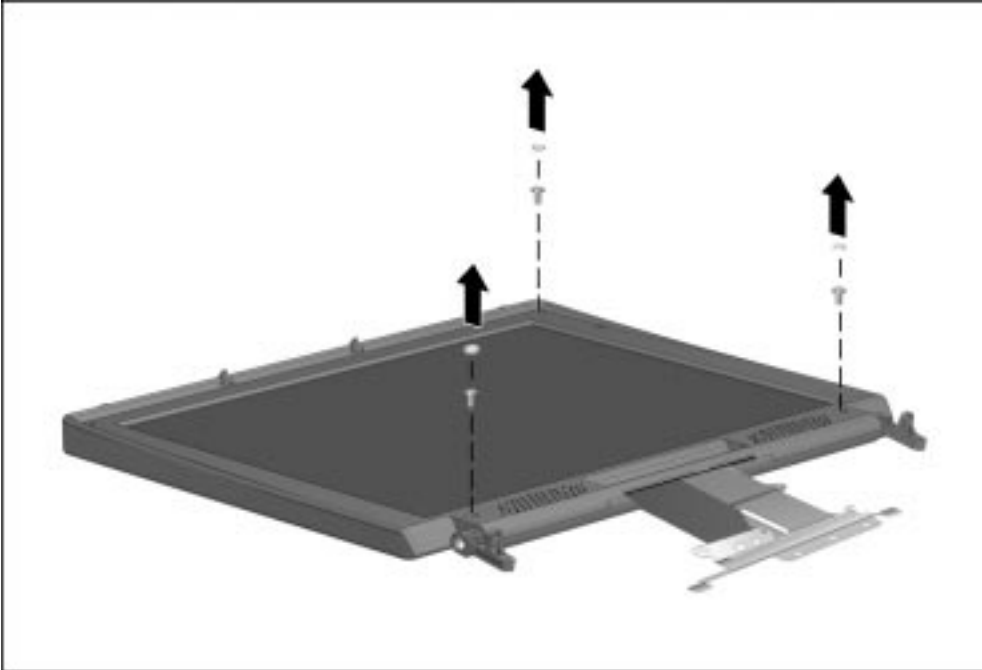

Figure 5-59. Removing the Display Bezel Screw Covers and Screws on the 14.1-inch Display
8. Remove the three screw covers and screws (14.1-inch display only, Figure 5-59).